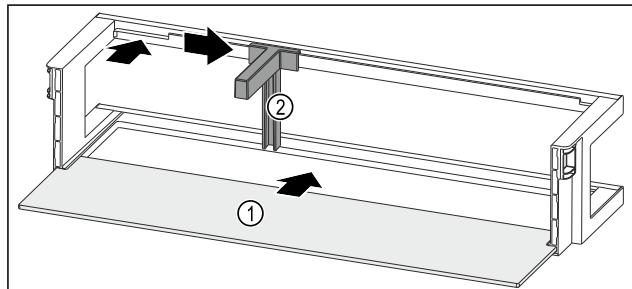

Fig. 176 Door rack with shelf
- ▶ Push the shelf Fig. 176 (1) into the side recesses.
- ▶ Insert the bottle holder Fig. 176 (2) in the recess.
- ▶ Push the bottle holder Fig. 176 (2) to the desired position to the side.